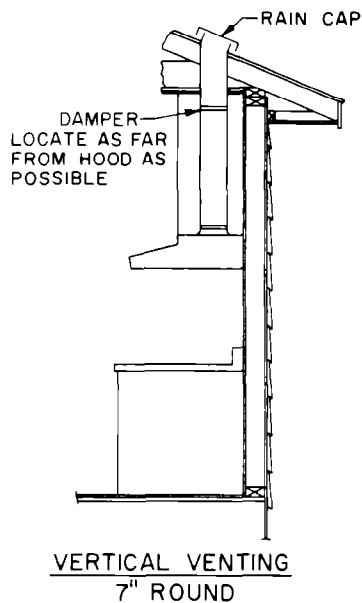

FIG. 4
1. For vented applications, see Figures 4, 5, and 6. Typical vented installations are shown for the 7" Round Vertical, 3 3/4 x 10 Vertical, and the 3 3/4 x 10 Horizontal Discharge respectively. Choose the best method for your installation.
8. Remove proper venting knockout. If 7" (17.8 cm) round vertical venting, entire top knockout including rectangular portion must be removed. The best performance from your hood, with most air taken from the kitchen and when the hood is most quiet, comes when you top vent with 7" round duct pipe as shown in Figure 4.